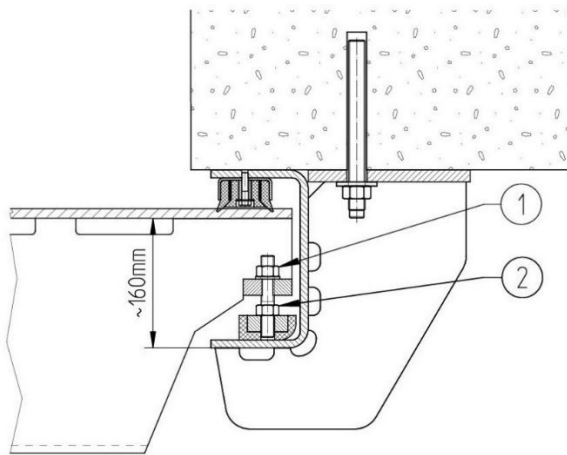

Fig. 15
Loosen the locking nut, pos.1 (Fig.15) and readjust the adjusting screw pos.2 accordingly.